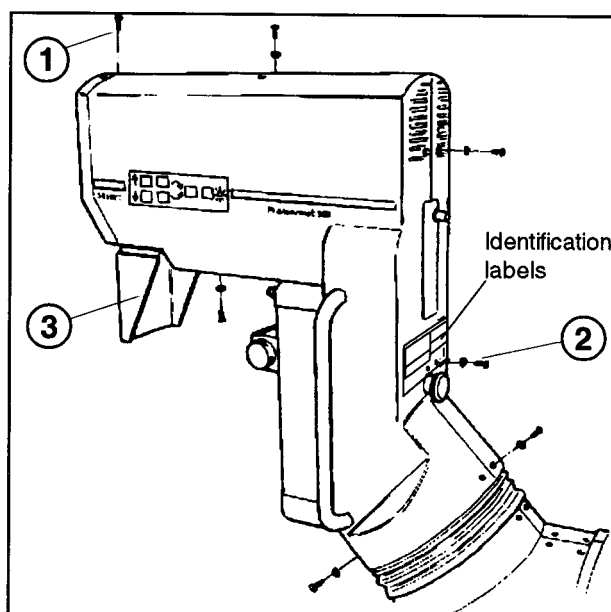

Fig. 3
- Loosen the two screws (1/Fig. 3) and remove the front cover.
- Loosen the six screws (2/Fig. 3) of the cover half you want to remove.
- To remove the face shield, just bend the two sides slightly outwards and pull it off the holder (3/Fig.3).